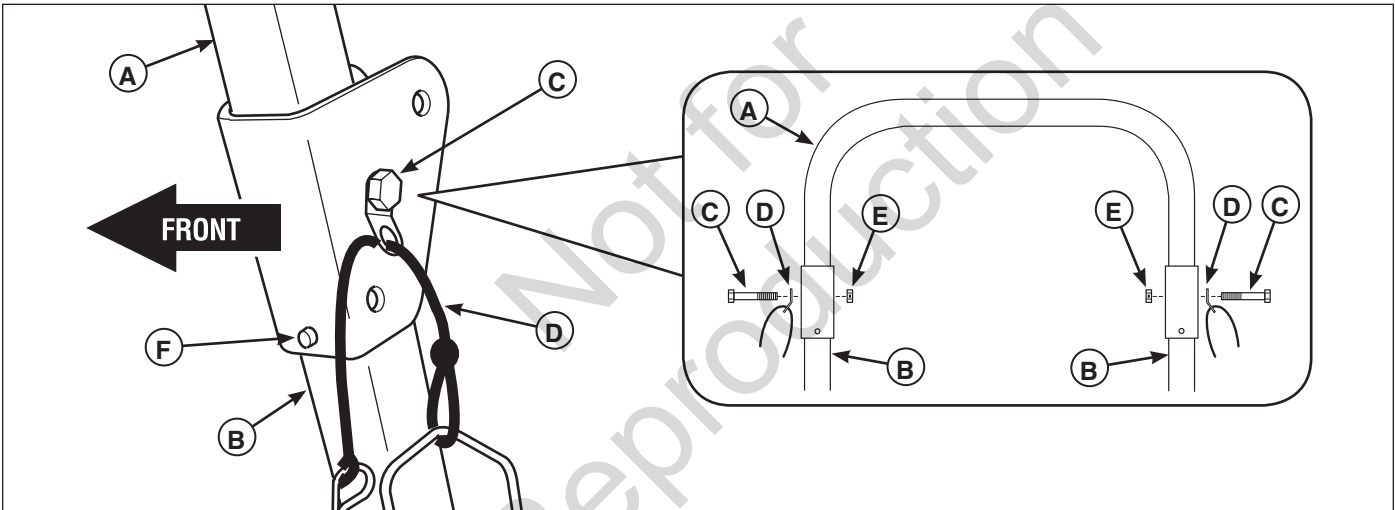

Figure 10. Install Top Loop
3. Install the top loop (A, Figure 10) onto the upright tubes (B). From the outside, install the 1/2" x 3" bolt (C) through the retainer pin assembly (D), then through the top loop and upright tube and shown in Figure 10. Loosely install the 1/2" side lock nut (E). Repeat for other side.